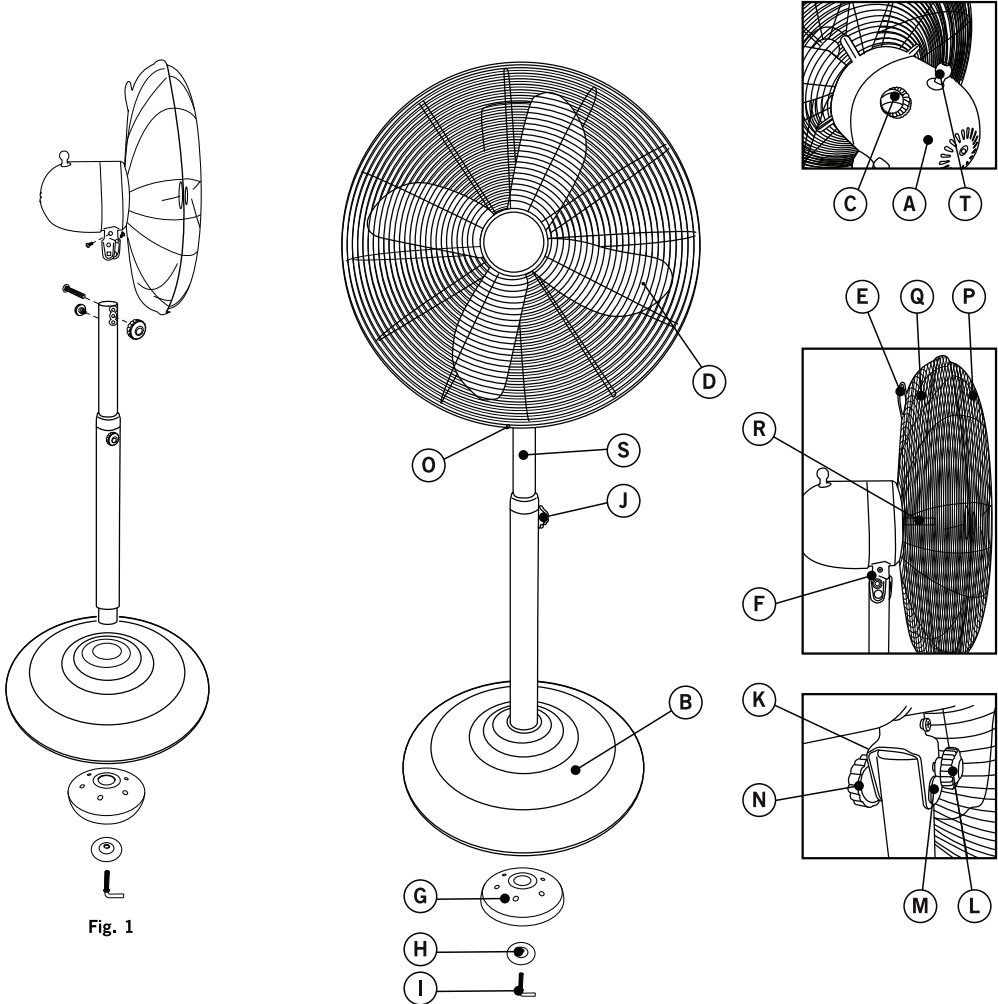

Fig. 1
• Fit the Adjustable Column (S) into the hole in the Support Base (B), place the counterweight (G) underneath the Support Base (B) and secure with the "L" shaped screw (I) inserting the washer (H) between the base and "L" shaped screw (I) (Fig.1)
• Fix the motor body (A) to the adjustable column (S) through the support motor (F) and fix in place with the motor body screw fastening (K) and the motor body fastening lever (L) making it coincide with the appropriate holes. Next introduce the incline adjustment screw (M) into the appropriate hole and tighten it with the inline adjustment lever (N)
- Unscrew the 4 screws and remove the washers situated further back from the front part of the motor body (A) Using these 4 screws screw in the rear grate (Q), leaving the carrying handle (E) on the upper part of the appliance.
- Insert the fan propeller (D) in the motor shaft (R) until the hole in the fan propeller coincides with motor shaft groove. Next use the fan propeller tightening screw to tighten it completely.
- Position the front grill (P) on to the back grill (Q), press them together ensuring that an accurate fitting between the two grills and alignment with the clips on the front grill. Make sure that the hole in the front grill coincides with the security screw (O).
- To ensure that the front and rear grills are securely fitted together secure each one with the security screw (O). This should be introduced through the hole so that the grille's cannot be separated without the help of a tool.